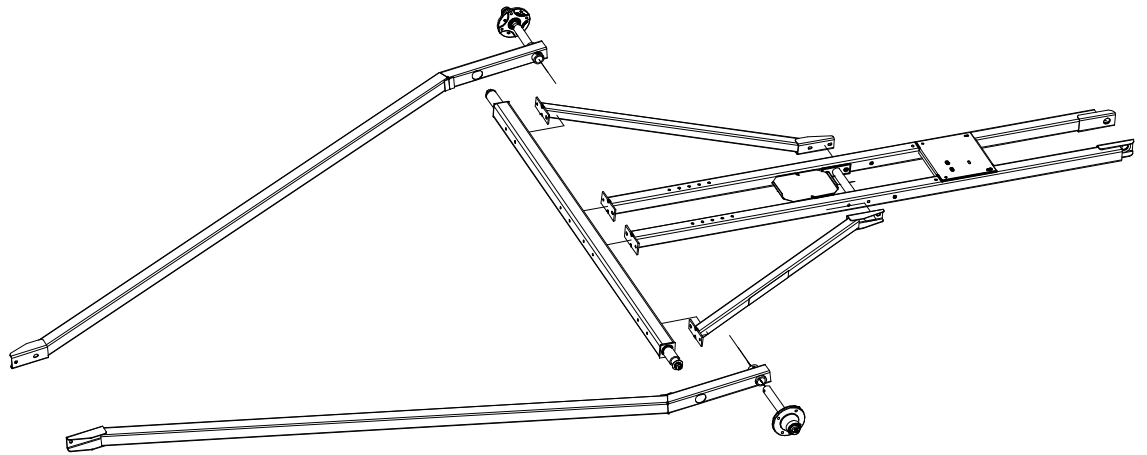

FIGURE 1
1. Lay out the frame as shown in **Fig 1**
3. Place A-Frame so the stub on the Main Frame axle can be slid into the second hole on the A-Frame. Now do the same on the other side. Both pieces should be installed on the axle and be pointing in the opposite direction. (**Fig 1**)
1. Lay frame out as shown in **Fig 1**